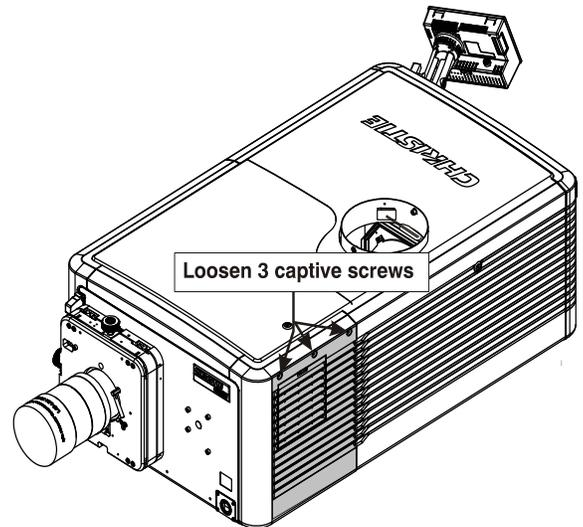

Figure 5-6 Remove Left Access Cover
1. Using a #2 Phillips, loosen the three captive screws at the top of the cover (Figure 5-6).